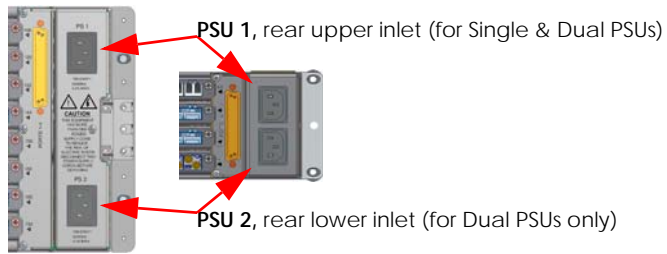
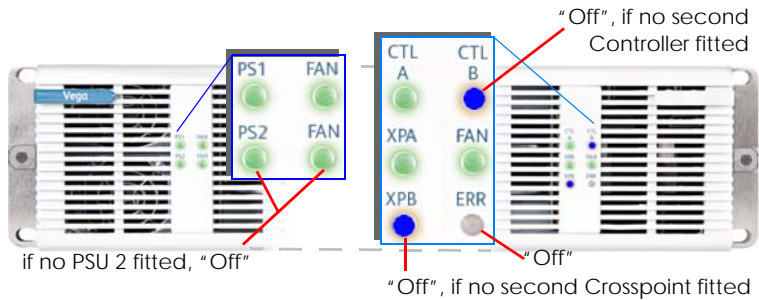

Figure 7: Vega 200 & 400 Rear IEC Power Inlets
Figure 8: Vega 200 & 400 Front LEDs (Vega 200 shown)
**Note:** For Vega 200 & 400 - see **Figure 7** and **Figure 8**.
See **Figures 8 (Vega 200 and 400)** and **Figure 9 (Vega 700)**.